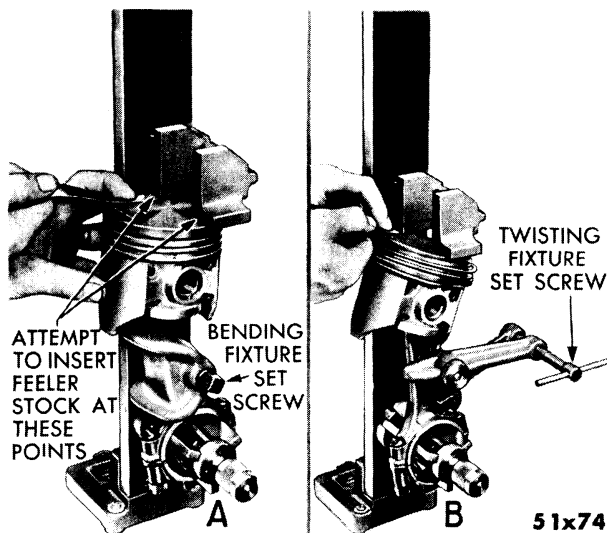

Fig. 117—Checking Connecting Rod and Piston For Alignment
- (1) **Check for Bend**—Install the connecting rod and piston in Figure 117. The top of the piston should be flush with the tool. The clear-
- (2) **Check for Twist**—With the connecting rod and piston assembly installed in fixture, Tool C-481, tilt the piston, as shown in Figure 117 “B”. The clearance between the tool and the top of piston should be zero (0). A .002 inch variation is allowable. However, if more than .002 inch, the piston and connecting rod should be disassembled and the rod checked, as outlined in the preceding paragraph.